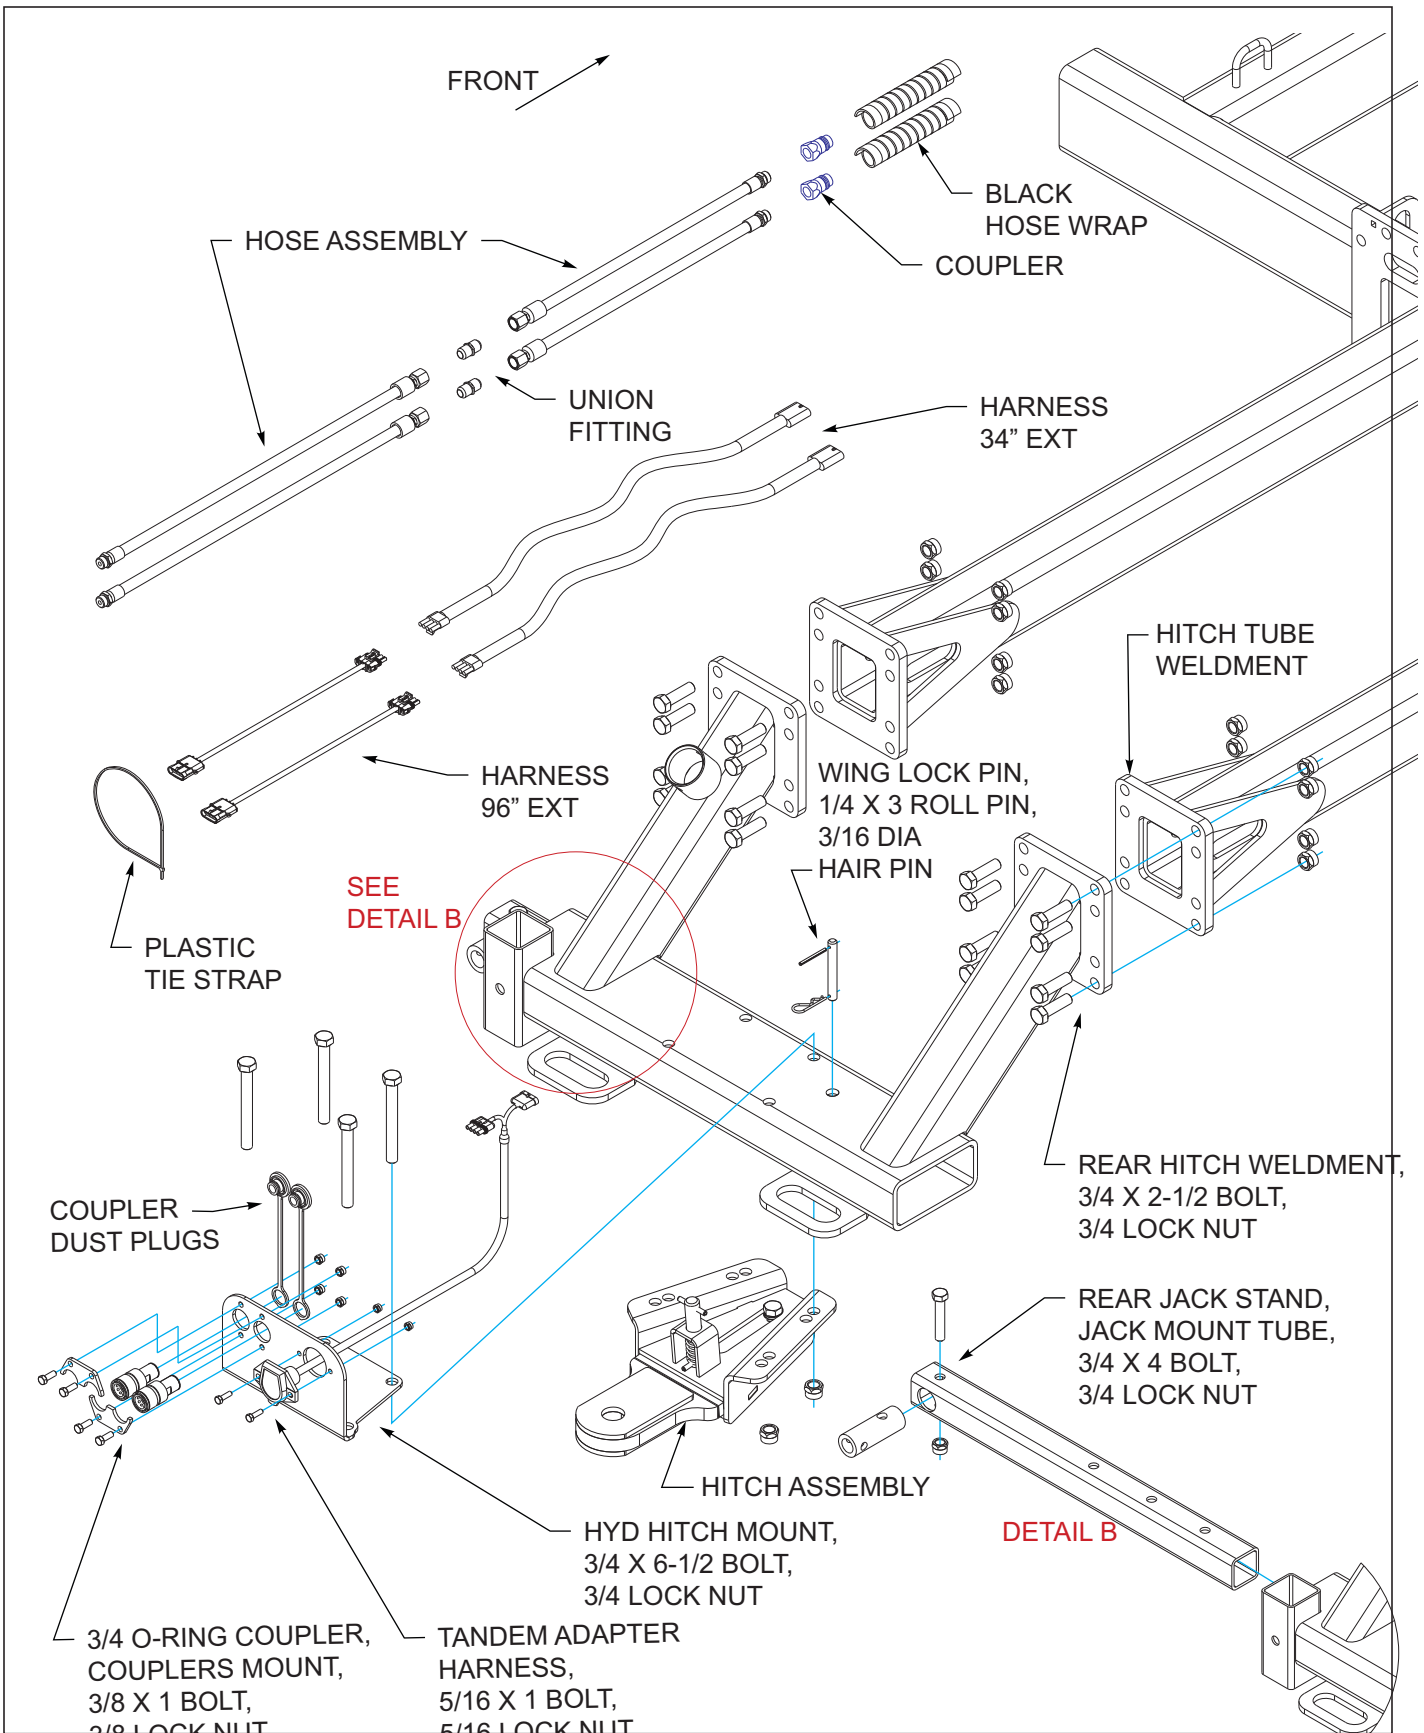

Figure 3-35: Rear Tow Hitch Installation (2 of 2)
5. Attach rear hitch weldment to rear of hitch tube weldments using 3/4 x 2-1/2 bolts and 3/4 lock nuts *See Figures 3-35*.